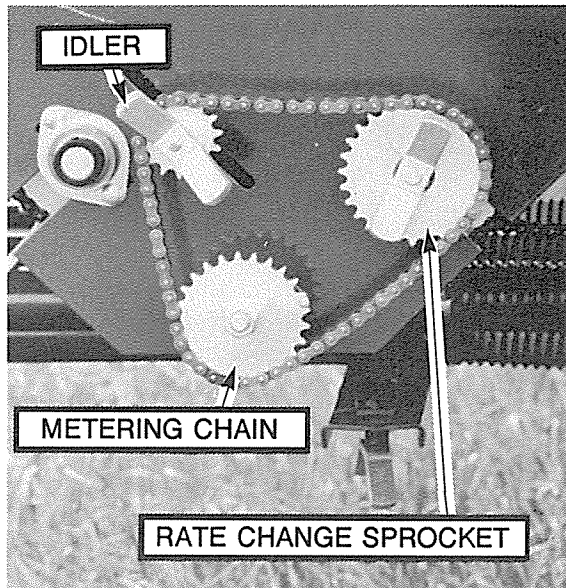

Figure 26 - Drive Transmission
- (a) Loosen metering chain on posi-drive transmission, by loosening the idler. (See Figure 26 & 27).
- (d) Remove the metering chain from the transmission that is **not** being checked. (See Fig. 26).
- (e) Check that the desired rate change sprocket is installed in the transmission. (See rate charts and Fig. 26 & 27).